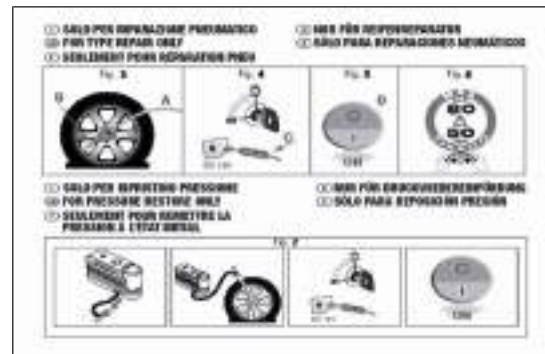

fig. 133
- an information leaflet fig. 133, providing instructions for using the kit correctly. This booklet should be given to the persons charged with handling the tyre treated with this kit;